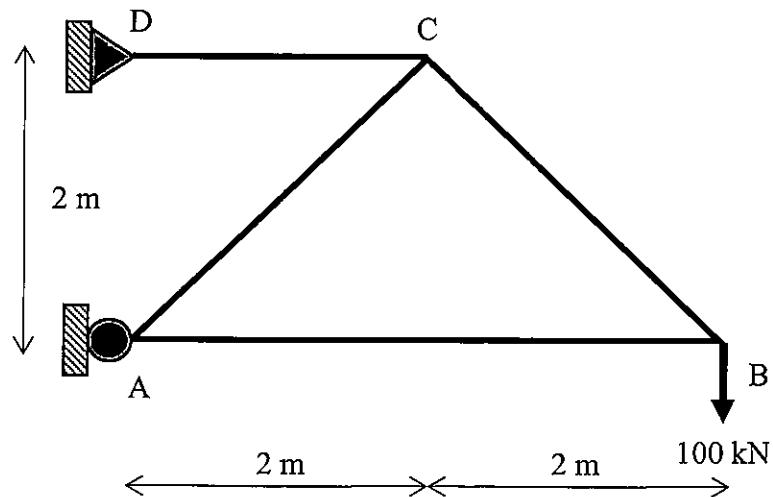

Figure A1(b) / Rajah A1(b)
- CLO2 (b) Figure A1(b) shows the statically determinate trusses with 100kN load at joint B. Given the cross-section area of each members is 400mm^2 and Elastic Modulus is 200GPa. Based on the information given on Table A1(b), determine the vertical displacement at joint C by using Virtual Work Method.